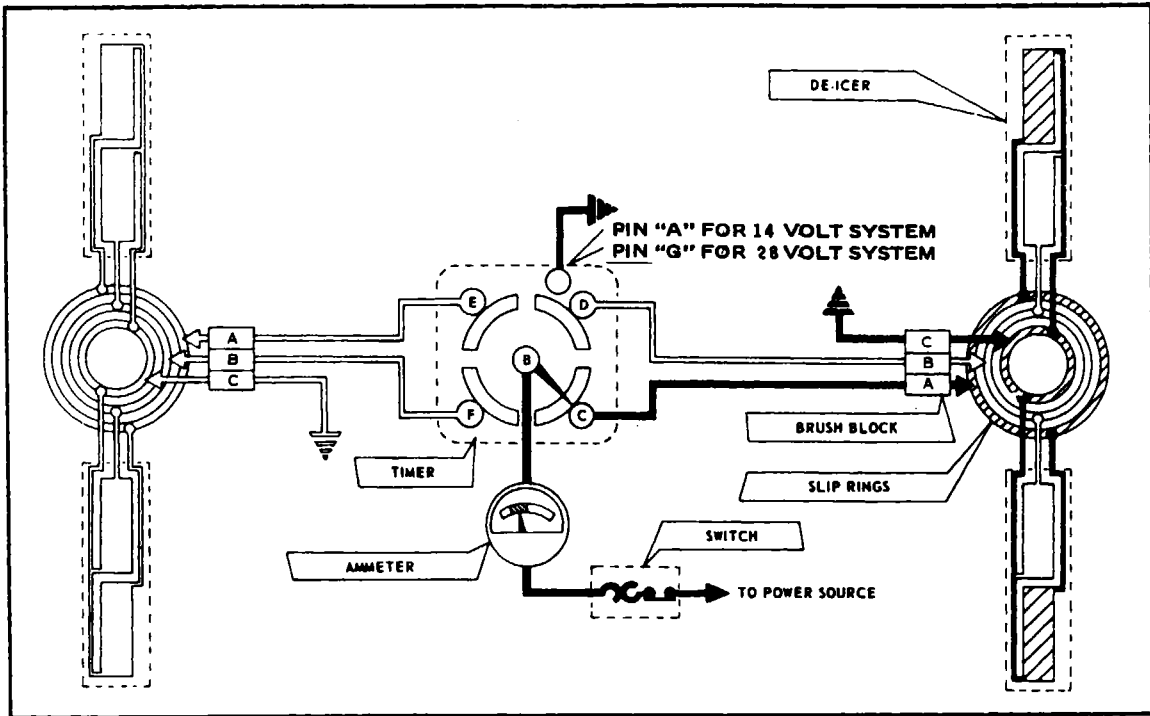
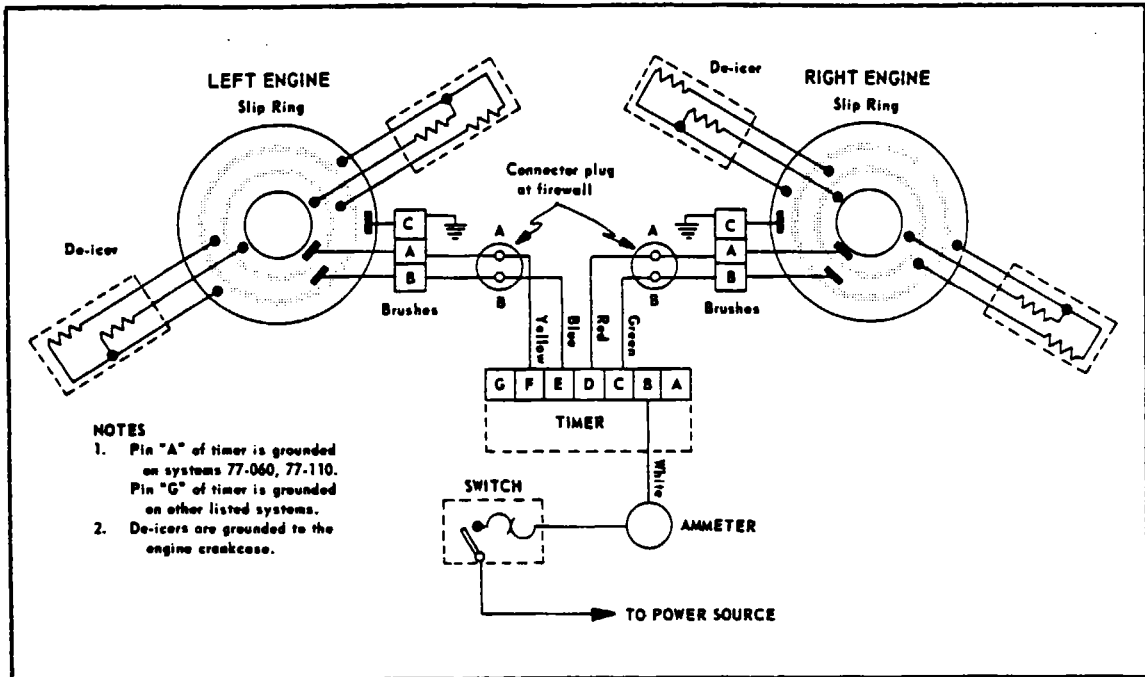
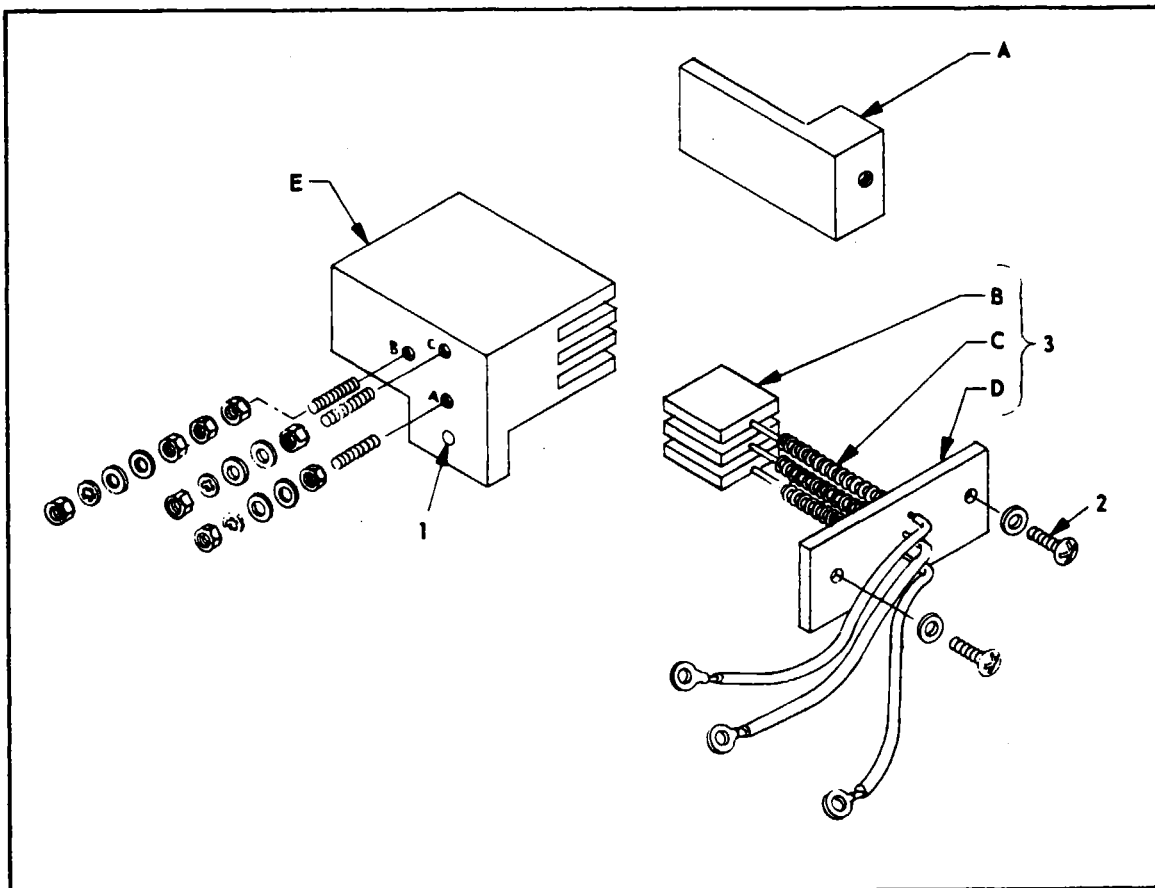
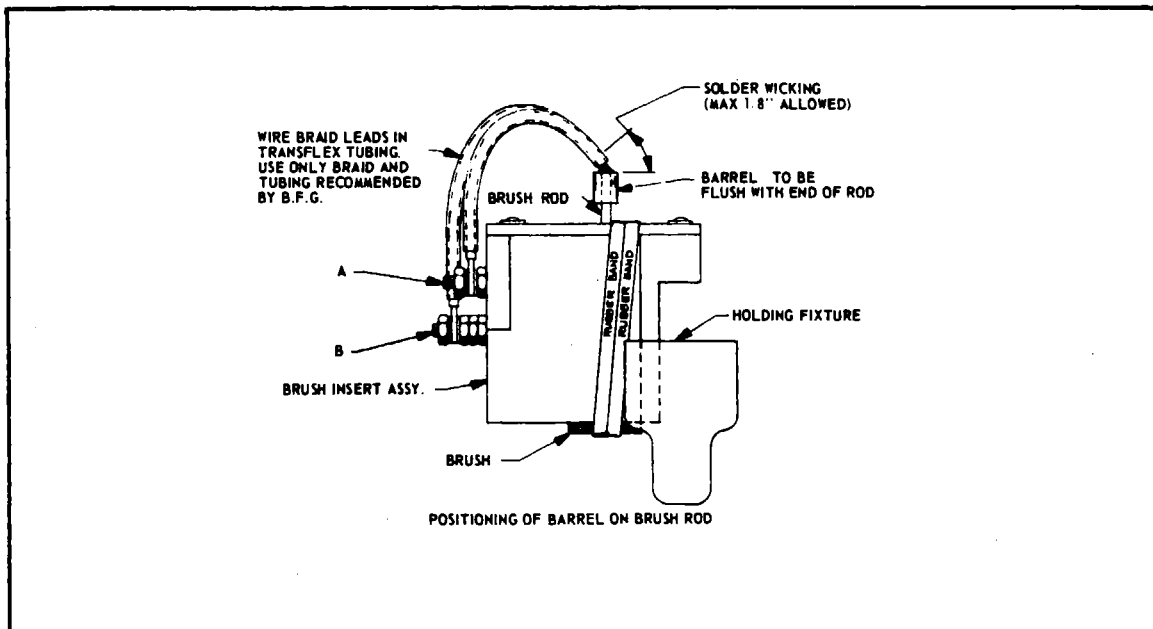

Figure 14-8. Electrical Diagram Showing Cycle Sequence, Phase 1
Figure 14-18. Schematic Wiring Diagram, PA-23-250; PA-23-235; and PA-23-250 (six place), Serial Nos. 27-2000 to 27-2504 incl.
Figure 14-20. Brush Insert Assembly,
Figure 14-22. Holding Brushes for Soldering, PA-23-250; PA-23-235; and PA-23-250 (six place), Serial Nos. 27-2000 to 27-2504 incl.
To conserve electrical power, current is cycled to the De-Icer heaters at timed intervals rather than continuously. Each De-Icer has two separate heaters, one for the outer half and one for the inner half. By heating all outer or inner heaters on only one propeller at a time, rotational balance is held during de-icing. Current is drawn from the airplane electrical system through the switch, ammeter and timer. The timer successively delivers current via the slip ring and brush block arrangement to the outer heaters on the right propeller, the inner heaters on the same propeller, the outer heaters on the left propeller and the inner heaters on the left propeller. The timer energizes each of these four phases in turn for about 30 seconds and then repeats the cycle as long as the control switch is on. The cycling sequence given is vital so that outboard heaters on each propeller operate before the inboard heaters. Refer to Figures 14-8 through 14-11 which represent a typical, not a particular, system. Correct circuit diagrams for each system are shown in Figures 14-18 and 14-19. The use of heat at the ice adhesion surface reduces the grip of the ice which is then removed by the centrifugal effect of rotation and the blast of the airstream. Note that a minimum thickness or weight of ice must build-up before centrifugal force becomes important. The system may be used continuously in flight if needed.
The wiring diagrams in Figures 14-18 and 14-19 show the brush, slip ring and De-Icer connections, which vary according to the system number at hand. Be sure to follow the wiring diagram for the specific system involved.
14-40. BRUSH REPLACEMENT AS SUB-ASSEMBLY. (PA-23-250; PA-23-235 and PA-23-250 (six place), Serial Nos. 27-2000 to 27-2504 incl.) (Refer to Figure 14-20.) Dismount the brush insert assembly by taking out the mounting screws and associated hardware at the point labeled (1). Disconnect brush leads at the studs noting the studs to which the leads of the top, middle and bottom brushes are connected. Now take out the screws (2) and associated washers to pull out the brush retainer assembly (3) which includes the brushes, springs and the retainer. Slip the brushes of the new sub-assembly into the slots of the holder and mount the new sub-assembly with screws (2) and associated washers. Connect the brush leads to the studs exactly as noted in removal and check against the wiring diagrams in Figures 14-18 and 14-19 if in any doubt. Mount the brush insert assembly with the screws and associated hardware at (1). (Refer to Paragraph 14-44.)
14-42. REPLACING INDIVIDUAL BRUSHES. (PA-23-250; PA-23-235; and PA-23-250 (six place), Serial Nos. 27-2000 to 27-2504 incl.) Remove brush insert assembly by taking out screws at point labeled (1) of Figure 14-20 and associated hardware. Use tape or rubber band to hold brushes in place while the assembly is gently locked in a vise. (Refer to Figure 14-22.) With soldering gun or iron, free soldered lead and barrel from end of brush rod of brush to be replaced. Loosen tape or rubber band to draw out the old brush and its spring. Install new spring and brush, hold with rubber band or tape. Now solder barrel and brush lead to end of brush rod - barrel must be flush with end of brush rod. (Work on one brush at a time and use the undisturbed brush rods adjacent to see how barrel is to be set.) In this step, see that width of braid lead lies parallel to the retainer plate. Avoid excess solder that would stiffen brush lead - 0.125 of an inch "wicking" is maximum allowable. Brush rods must be free of solder between "B" barrel and brush. (Refer to Paragraph 14-44.)